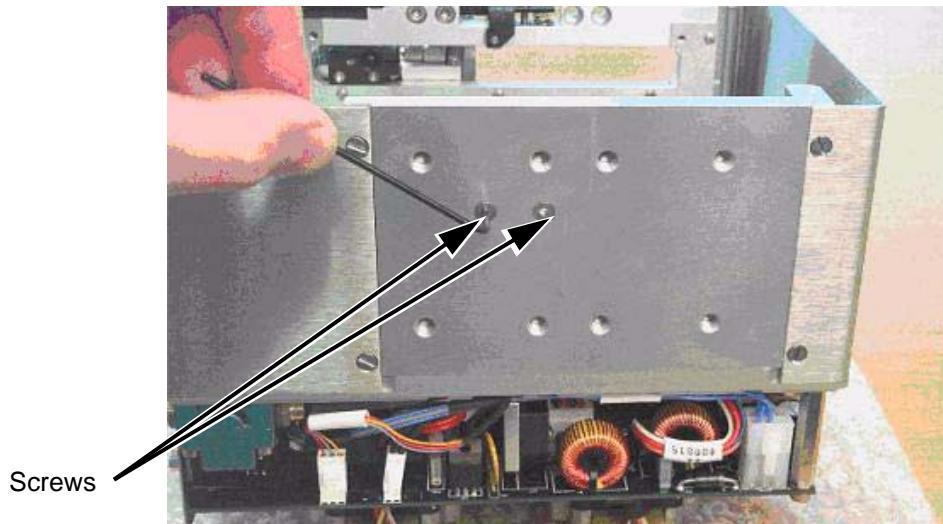

Figure 5-53: Emitter Housing Screws
- 2 Remove the two emitter housing screws shown in Figure 5-53